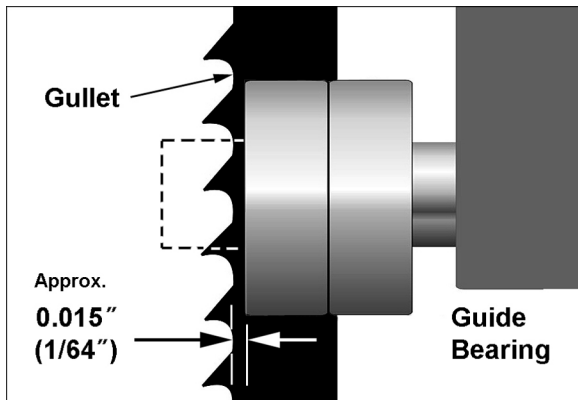

Figure 24
5. Slide entire guide bracket until front of guide bearings are about 0.015" (1/64") behind the blade's gullet (curved area at base of tooth). See Figure 24.